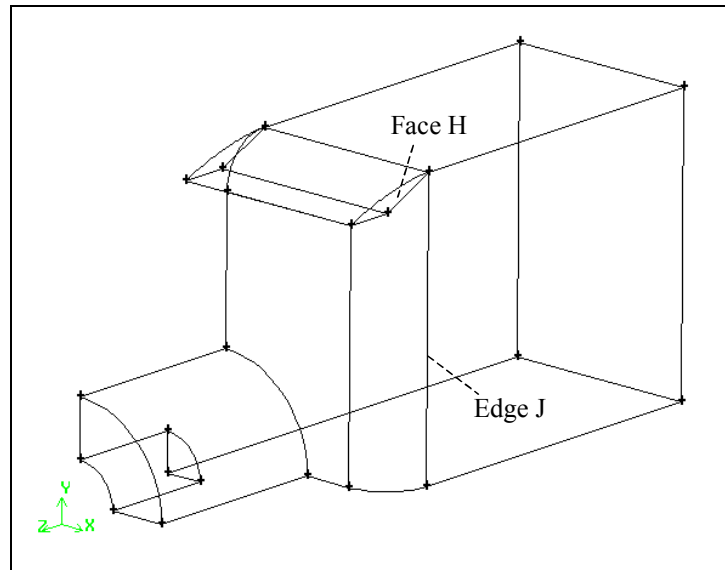

Figure 4-19: Face and edge to be used for sweep face
- a) Select the face marked H in Figure 4-19.
- c) Select the edge marked J in Figure 4-19.